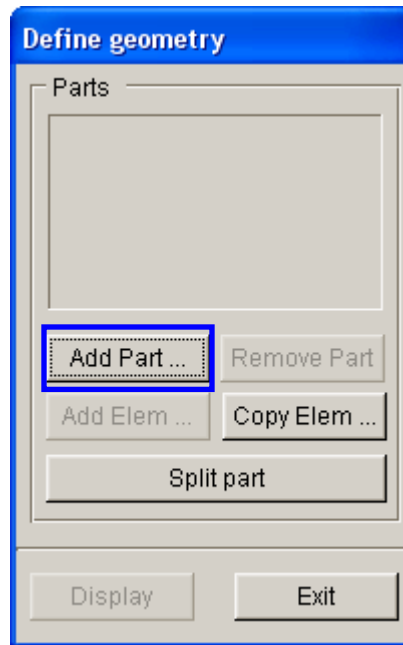

Figure 69: Define geometry dialog box
3. The program will pop up the **Define Geometry** dialog box shown in Figure 69.